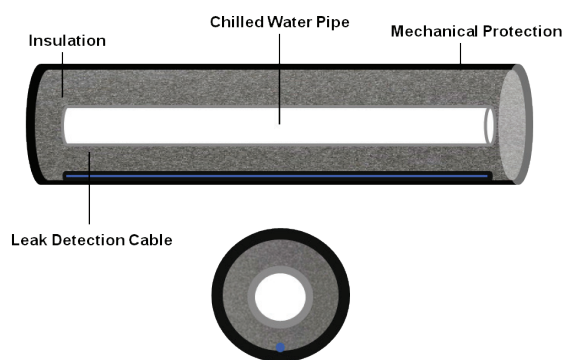
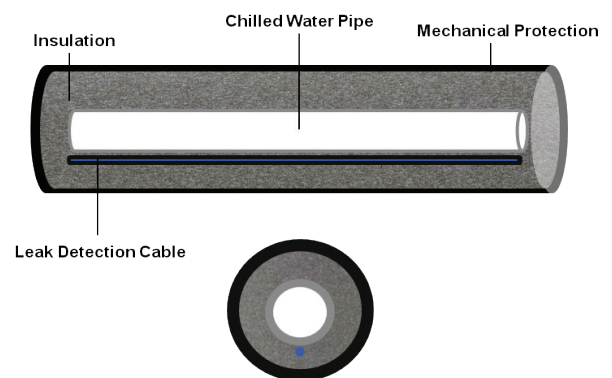

Figure 2.3.1
Figure 2.3.2
For pipe with insulation (without drip tray), figure 2.3.1 et figure 2.3.2 present two kinds of water sensing cable installation.
Layout Explanation (Figure 2.3.1 & Figure 2.3.2) :
- The sense cable is installed in the insulation level, near the mechanical protection (Figure 2.3.1);
- The sense cable is installed in the insulation level, under the water pipe (Figure 2.3.2).